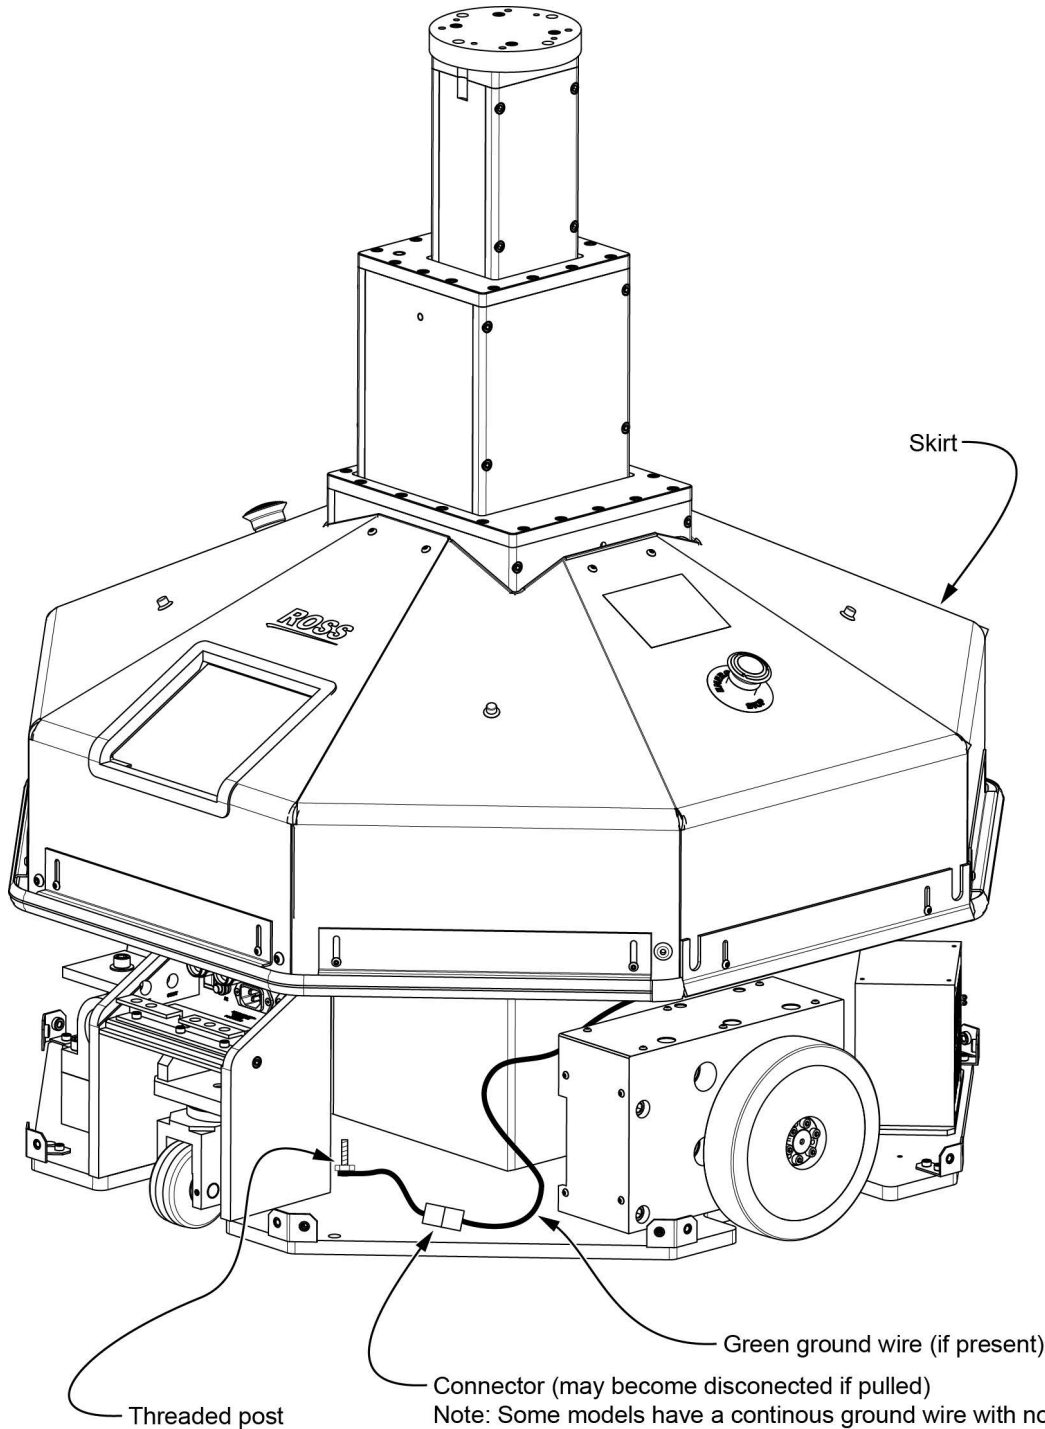

Figure 18 - Reconnecting the Ground Wire (if present) - View of the CamBot 700XY Pedestal (some parts omitted for clarity)
1. To the right side of the connection panel, check whether there is a loose green ground wire hanging from the inside edge of the skirt. If such a wire is present, reconnect it. The wire connects to a similar green ground wire attached to a threaded post beside the connection panel. Refer to **Figure 18**.